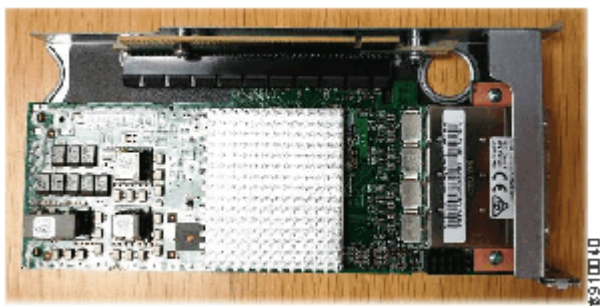

Figure 71. Alignment of the network adapter
- Align the replacement adapter with the PCIe socket of the riser and press the adapter into place. Ensure that the adapter is fully seated in the riser, as shown in Figure 71 on page 123.